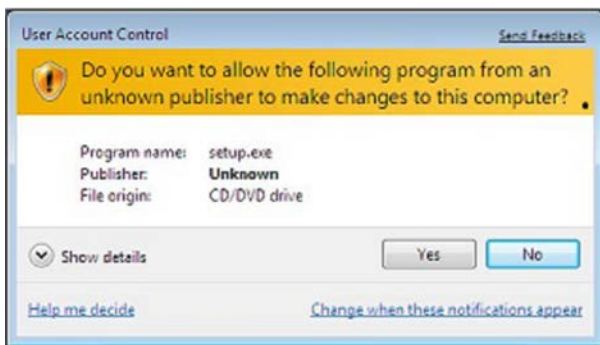

Figure 3. Granting Permission for the Program to Make Changes to the PC
3. A dialog box appears asking for permission to allow the program to make changes to the PC. Click **Yes** (see Figure 3).